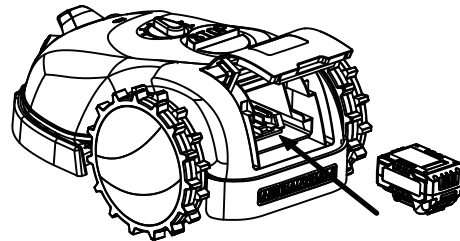

Fig.6-2
--The charger supplied is matched to the battery installed in the mower (Fig.6-2) Do not use another charger.